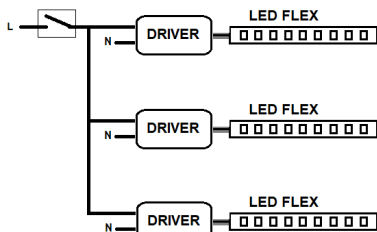
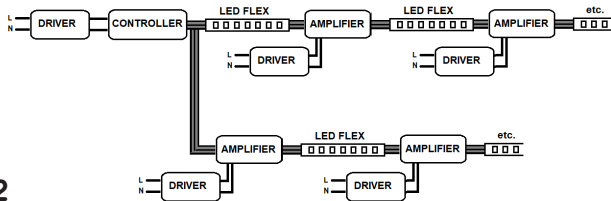

Fig. 1
Fig. 2
- d) the overall length of LED flex required – long runs can cause volt drop, resulting in the light output being dimmer at the far end of the run. To prevent this, for installations of more than 10m in length consider splitting the installation into two or more shorter runs with separate power feeds and separate drivers (see Fig. 1). Signal amplifiers may be required if a controller is used (see Fig. 2) – in this configuration the system can be extended, provided that each driver is sufficient for the load of the section of flex that is installed immediately after it